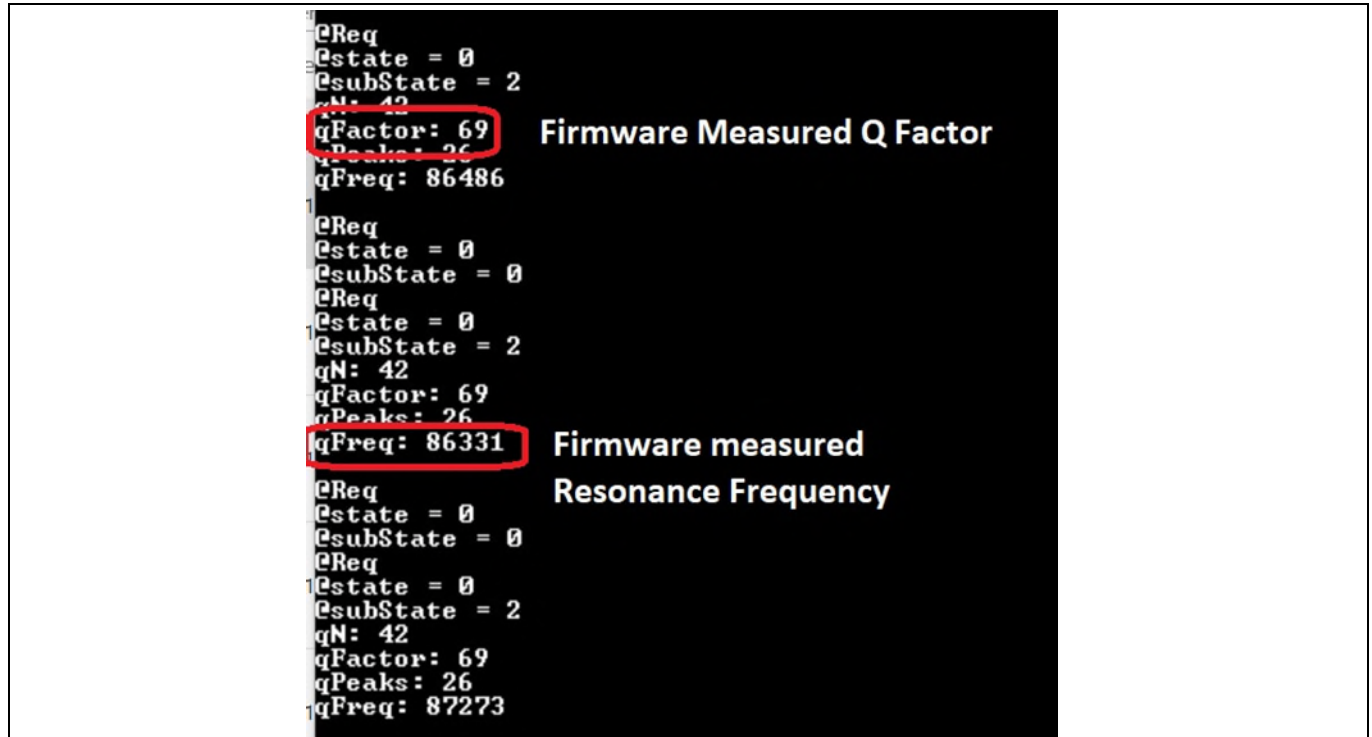

Figure 17 UART logs for receiver reported and WLC power transmitter measured resonance frequency
The process involves capturing the measured resonance frequency values from the UART logs (as shown in Figure 17) or using the digital signal oscilloscope or LCR meter [7]. This section details using system measurements available from the UART logs as shown in the following figure.
6. Wait for two consecutive CE packets with a 0 value (see Figure 17). Record the PTx (transmitter power) and PRx (reported receiver power) values from the UART debug log to the supporting document.